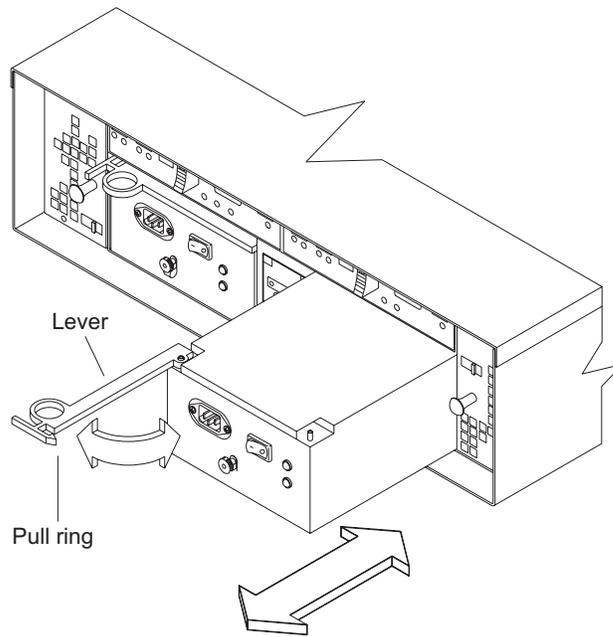

Figure 19. Replacing a power supply
1. Slide one power supply into the expansion unit. Be sure to replace the power supplies so that the lever on each power supply opens toward the interior of the expansion unit, as shown in Figure 19 on page 33.
Attention: Be sure that the lever is pulled straight out as you slide the power supply into the expansion unit, as shown in Figure 19 on page 33.